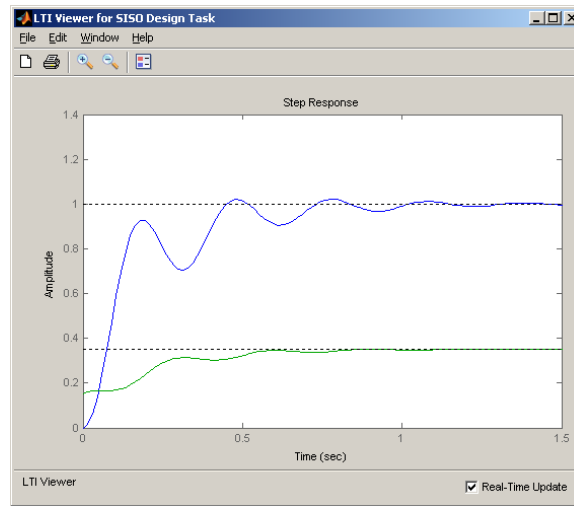

Figure 7: Step response for PI-D controller
12. The step response for this controller configuration is shown in Figure 7.